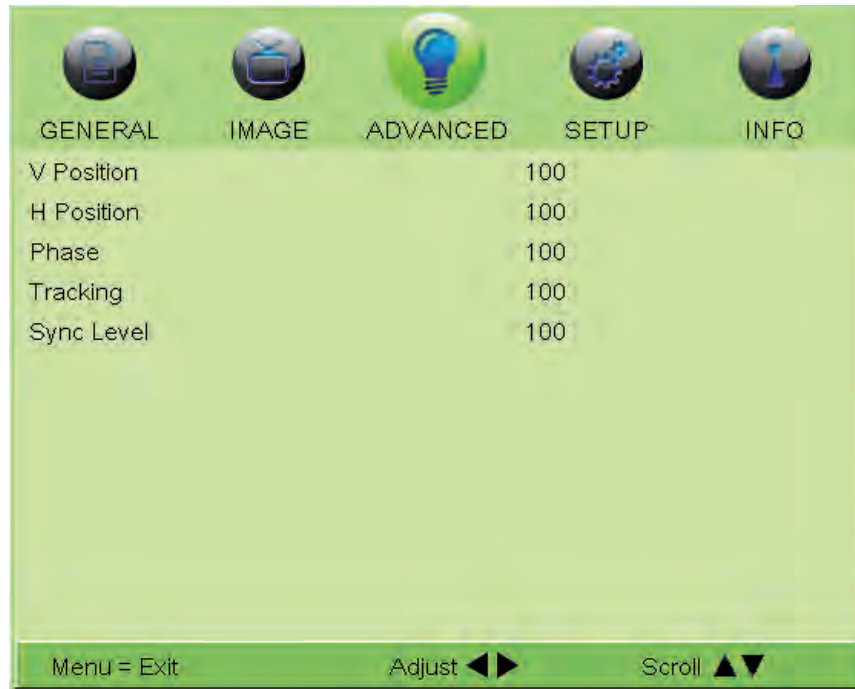

Figure 4-18: Fine Sync Sub-Menu
- **Fine Sync:** To fine-tune the position and other image attributes, choose Fine Sync from the ADVANCED menu and press ENTER. This displays the Fine Sync sub-menu, shown in Figure 4-18.